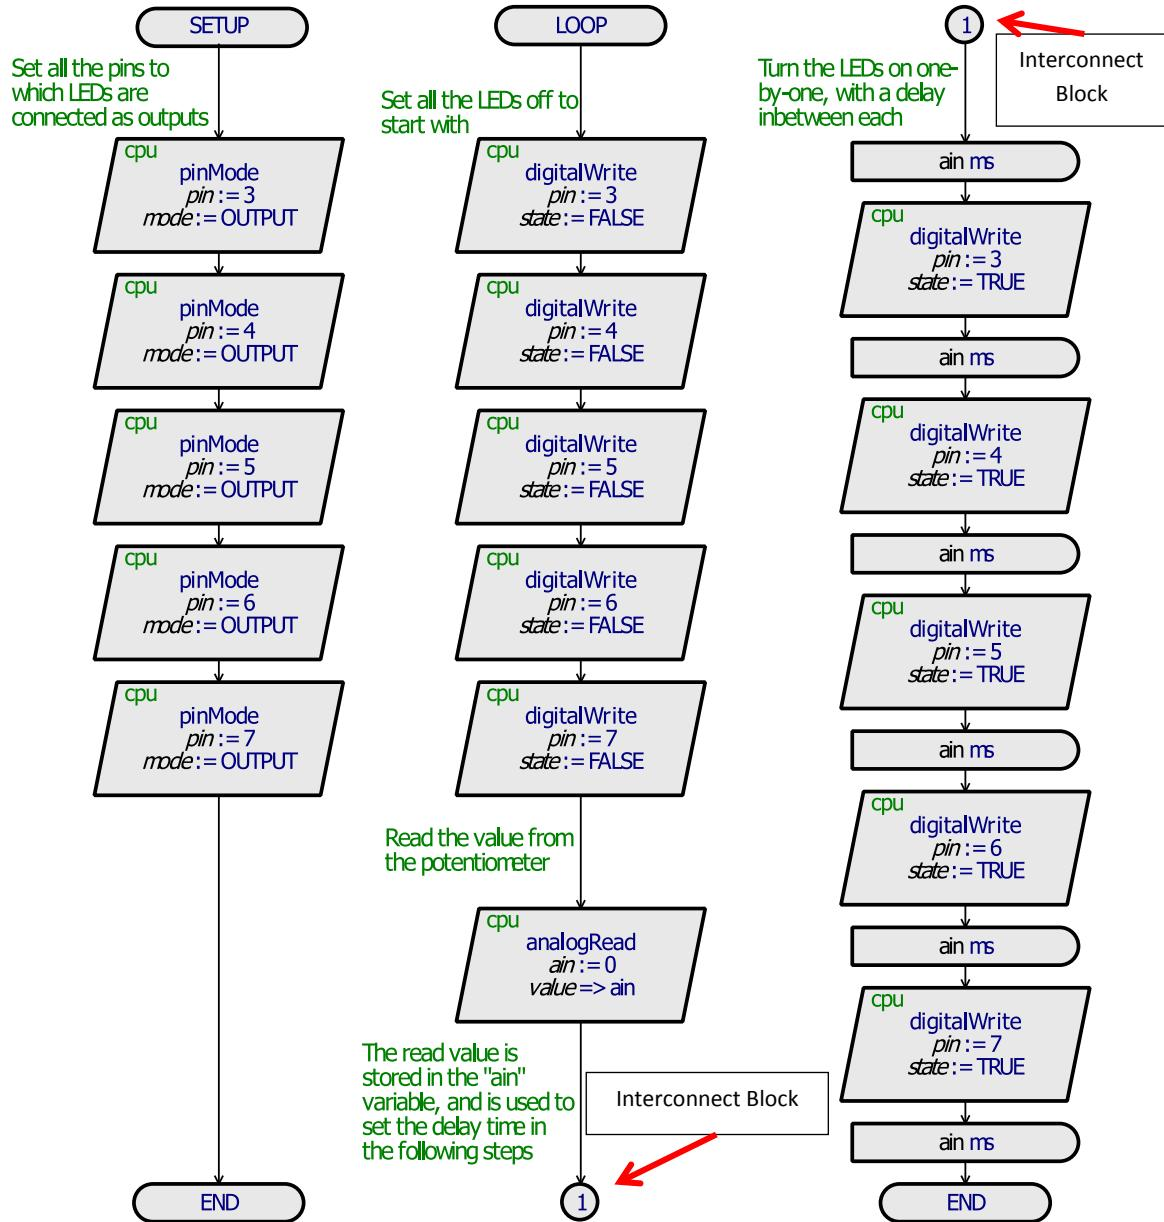

Figure 7-10: Sequencing LEDs flowchart
Figure 7-10 depicts the flowchart program for this project. Don't worry about drawing the flowchart just yet, we will get around to that shortly; for now, let's just study it to see how it works:
We will now proceed to constructing our flowchart so that it matches the one in Figure 7-10.
1. Drag 5 x pinMode methods / blocks from the cpu peripheral into the flowchart, placing them in the Setup routine. Set the “pin” and “mode” arguments of the blocks so that they set pins 3 to 7 as outputs (as per Figure 7-10). Remember that the arguments of a block can be changed by right-clicking on the block, and then selecting “Edit” from the popup menu.
Once done ensure that your flowchart looks functionally like Figure 7-10 (remembering that comment blocks, for example, do not affect the function of the flowchart), but do not run the simulation just yet.
Once the flowchart has been completed as per Figure 7-10, and optionally Active Popup regions added, the “Play” button (blue triangle in the bottom-left corner of the screen) can be pressed to test the simulation. You should see the LEDs flashing in sequence, and changing the setting on the potentiometer (using the arrows, or by clicking on it) should change the speed (rate) of the flashing. If anything doesn’t work as expected, then it is recommended to go through this chapter again to check if anything has been missed or set incorrectly.